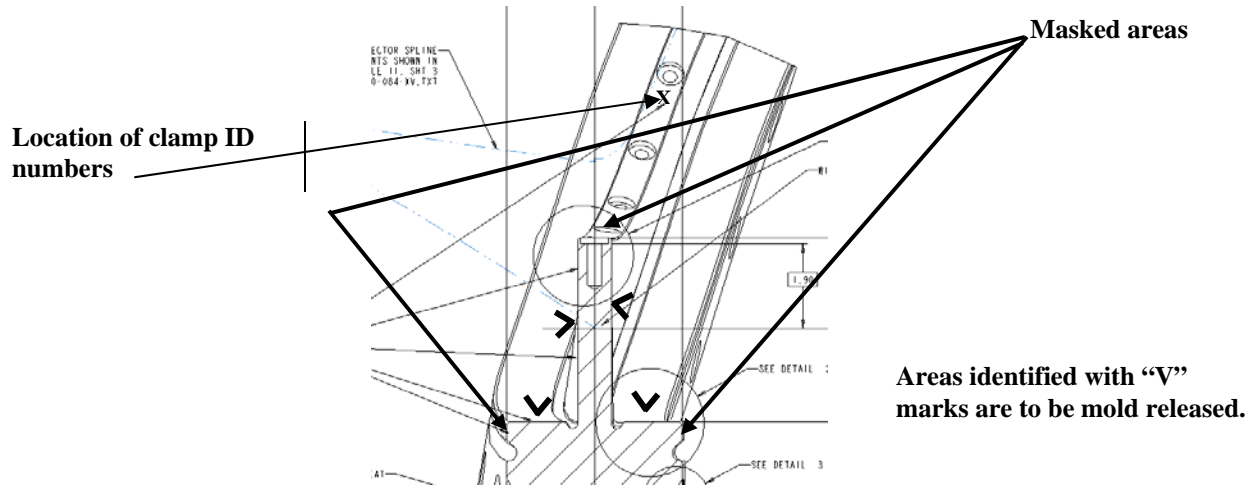

Figure 16- Mold Release and Masked Surfaces
- Verify that the winding form vendor has properly identified the clamp locations on top of the septum next to the tapped holes. The clamp location numbers will be provided on the appropriate coil winding form drawings. See Figure 16- Mold Release and Masked Surfaces
Mask the surfaces identified in Figure 9 with masking tape. Apply (3) coats of mold release (“Miller-Stephenson”-PTFE MS122DF) to the winding surfaces. Allow each coat to dry to the touch prior to applying the next coat. Figure 16- Mold Release and Masked Surfaces identifies the surfaces to be coated and masked.